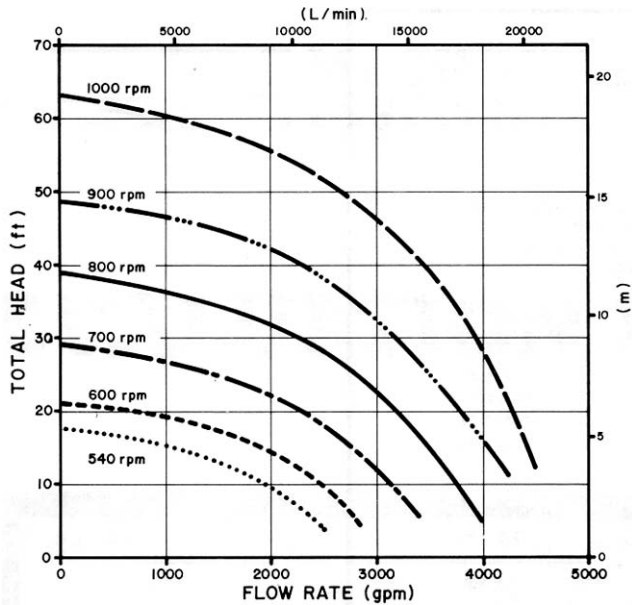

FIGURE 2. Lloyd's Model RE-100 Pump Performance Curves at Various Power Take-off Speeds.
**Flow Rate:** Flow rate characteristics of the Lloyd's model RE-100 pump are given in FIGURE 2 for a range of total heads and power take-off speeds. Performance curves were determined for a 27 in (685 mm) inlet submergence depth as measured from the water surface to the centre of the impeller.